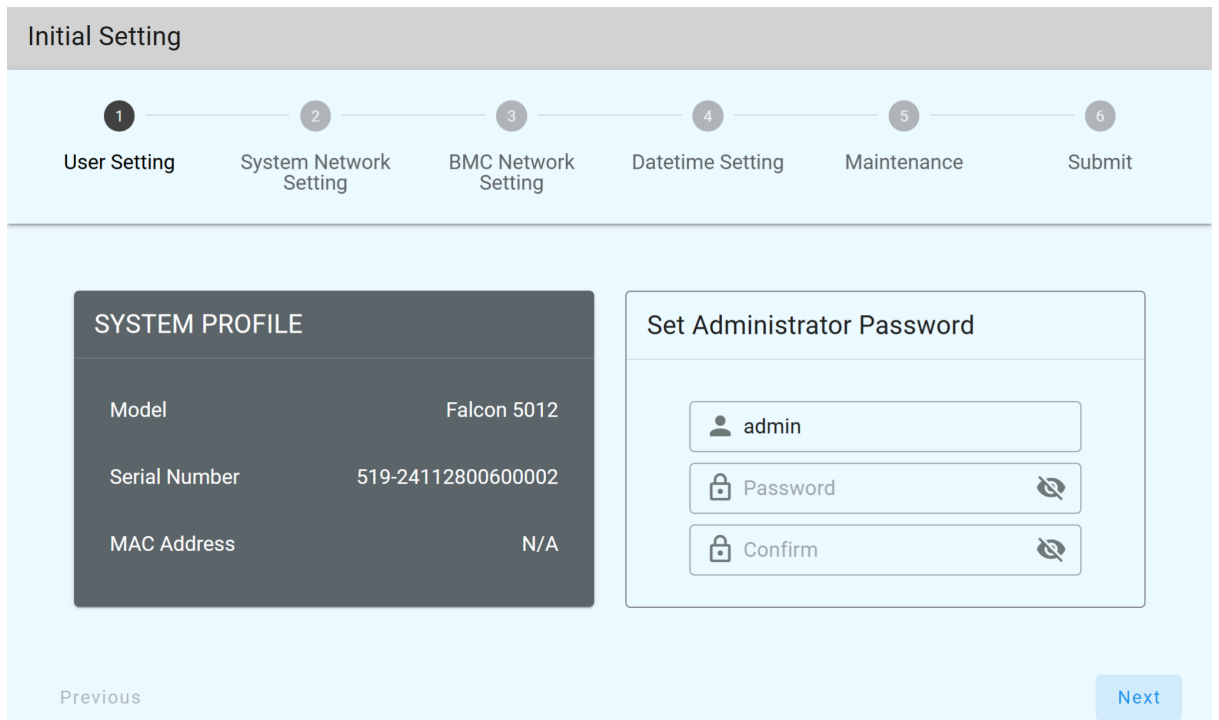

Figure 26. Setting the Administrator Password During Initial Setup
A. Set Administrator Account (refer to Figure 26):